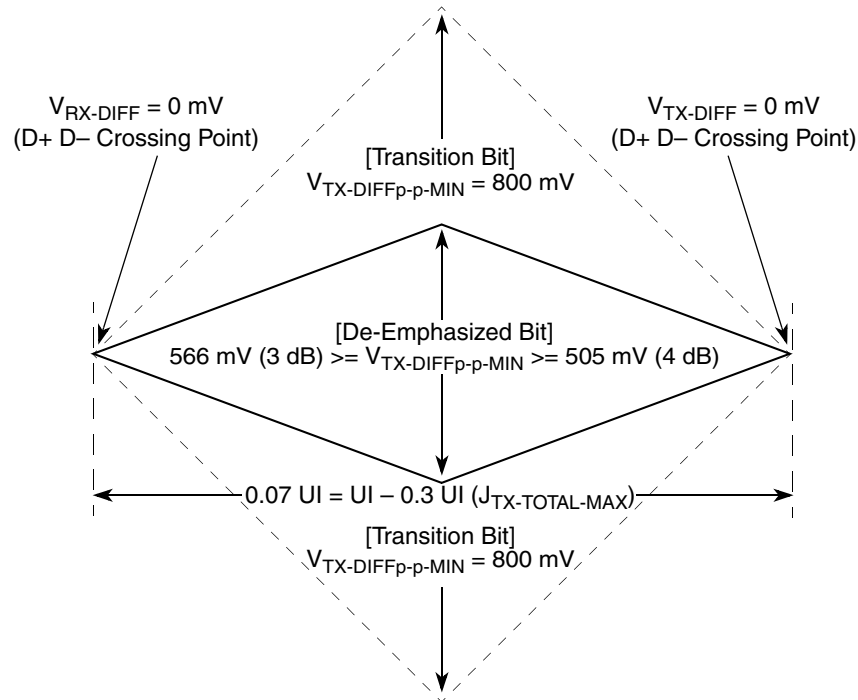
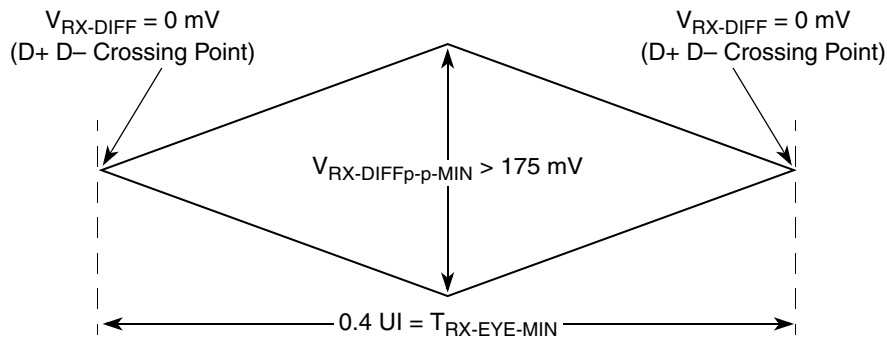
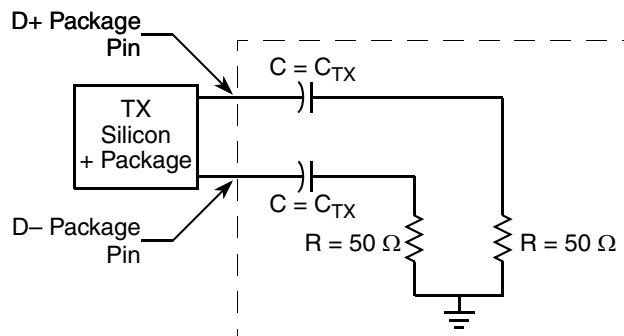

Figure 56. Minimum Transmitter Timing and Voltage Output Compliance Specifications
Figure 57. Minimum Receiver Eye Timing and Voltage Compliance Specification
Figure 58. Compliance Test/Measurement Load
2. Specified at the measurement point into a timing and voltage compliance test load as shown in Figure 58 and measured over any 250 consecutive TX UIs. (Also refer to the transmitter compliance eye diagram shown in Figure 56.)
4. The transmitter input impedance shall result in a differential return loss greater than or equal to 12 dB and a common mode return loss greater than or equal to 6 dB over a frequency range of 50 MHz to 1.25 GHz. This input impedance requirement applies to all valid input levels. The reference impedance for return loss measurements is 50 Ω to ground for both the D+ and D- line (that is, as measured by a vector network analyzer with 50- Ω probes—see Figure 58.) Note that the series capacitors C_{TX} is optional for the return loss measurement.
5. Measured between 20%–80% at transmitter package pins into a test load as shown in Figure 58 for both $V_{\text{TX-D+}}$ and $V_{\text{TX-D-}}$.
The TX eye diagram in Figure 56 is specified using the passive compliance/test measurement load (see Figure 58) in place of any real PCI Express interconnect +RX component.
2. Specified at the measurement point and measured over any 250 consecutive UIs. The test load in Figure 58 should be used as the RX device when taking measurements (also refer to the receiver compliance eye diagram shown in Figure 57). If the clocks to the RX and TX are not derived from the same reference clock, the TX UI recovered from 3500 consecutive UI must be used as a reference for the eye diagram.
4. The receiver input impedance shall result in a differential return loss greater than or equal to 15 dB with the D+ line biased to 300 mV and the D– line biased to –300 mV and a common mode return loss greater than or equal to 6 dB (no bias required) over a frequency range of 50 MHz to 1.25 GHz. This input impedance requirement applies to all valid input levels. The reference impedance for return loss measurements for is 50 Ω to ground for both the D+ and D– line (that is, as measured by a vector network analyzer with 50- Ω probes, see Figure 58). Note that the series capacitors C_{TX} is optional for the return loss measurement.
The RX eye diagram in Figure 57 is specified using the passive compliance/test measurement load (see Figure 58) in place of any real PCI Express RX component.
In general, the minimum receiver eye diagram measured with the compliance/test measurement load (see Figure 58) will be larger than the minimum receiver eye diagram measured over a range of systems at the input receiver of any real PCI Express component. The degraded eye diagram at the input receiver is due to traces internal to the package as well as silicon parasitic characteristics which cause the real PCI Express component to vary in impedance from the compliance/test measurement load. The input receiver eye diagram is implementation specific and is not specified. RX component designer should provide additional margin to adequately compensate for the degraded minimum receiver eye diagram (shown in Figure 57) expected at the input receiver based on some adequate combination of system simulations and the return loss measured looking into the RX package and silicon. The RX eye diagram must be aligned in time using the jitter median to locate the center of the eye diagram.
The reference impedance for return loss measurements is 50 Ω to ground for both the D+ and D- line (that is, as measured by a vector network analyzer with 50-Ω probes, see Figure 57). Note that the series capacitors, CTX, are optional for the return loss measurement.
The AC timing and voltage parameters must be verified at the measurement point, as specified within 0.2 inches of the package pins, into a test/measurement load shown in Figure 58.